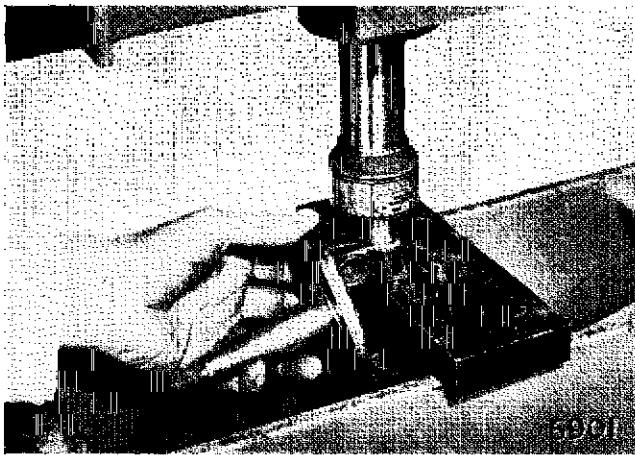

Fig. 11. Ejecting worn king pin bush from lower lug of the swivel pin with RG385
10. To avoid distorting the two stub axle bosses when renewing the bushes about their inner faces to the press bed and press the worn bushes from the stub axle bosses individually using Churchill tool No. RG.385, see Fig. 11.
KING PIN BUSHES (See Figs. 11 and 12)